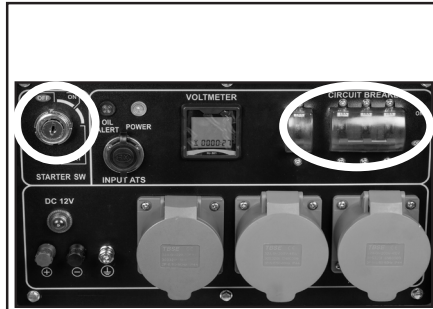

Fig.14
2. Turn 'OFF' the main switch and the AC circuit breakers (if applicable). Fig.14